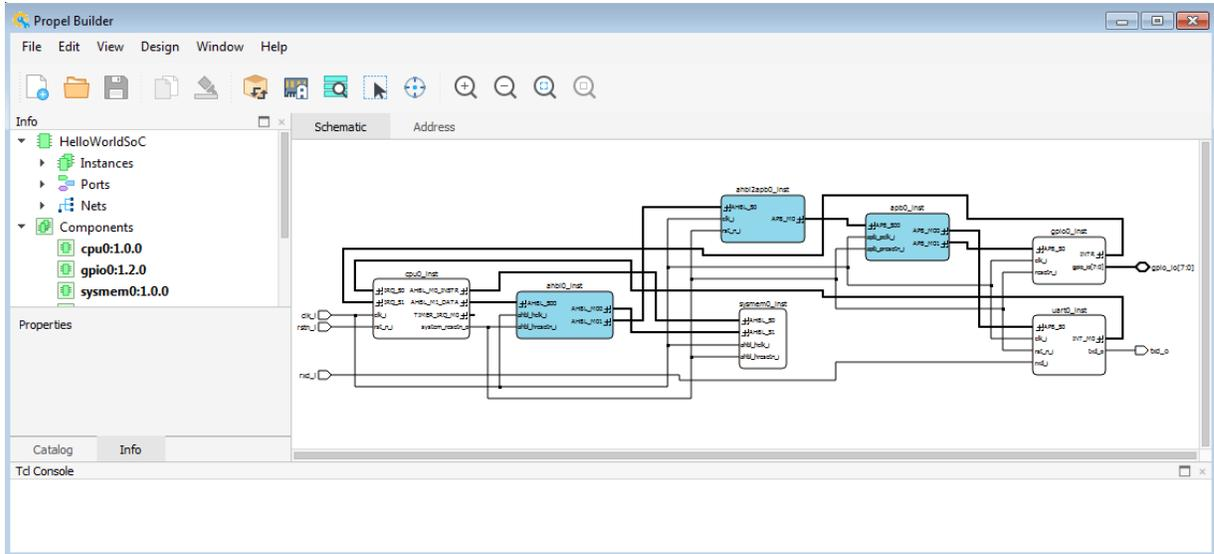

Figure 4.2. Propeller Builder Window
4. The created SoC project can be found in the workbench. Its design is opened and displayed in Propel Builder for review (Figure 4.2).